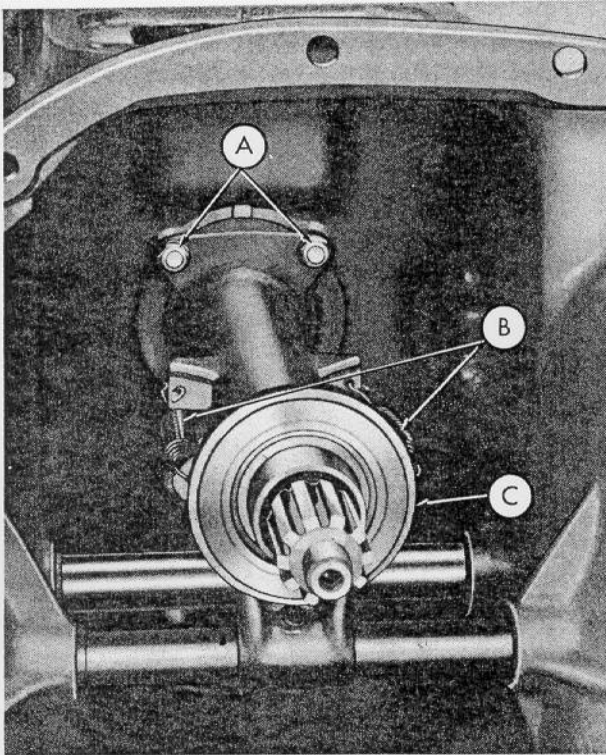

Fig. 4
Step 3—Disconnect the clutch release bearing retaining springs (B-Figure 4) and remove bearing (C-Figure 4).
- a. Remove the four cap screws (A-Figure 4).